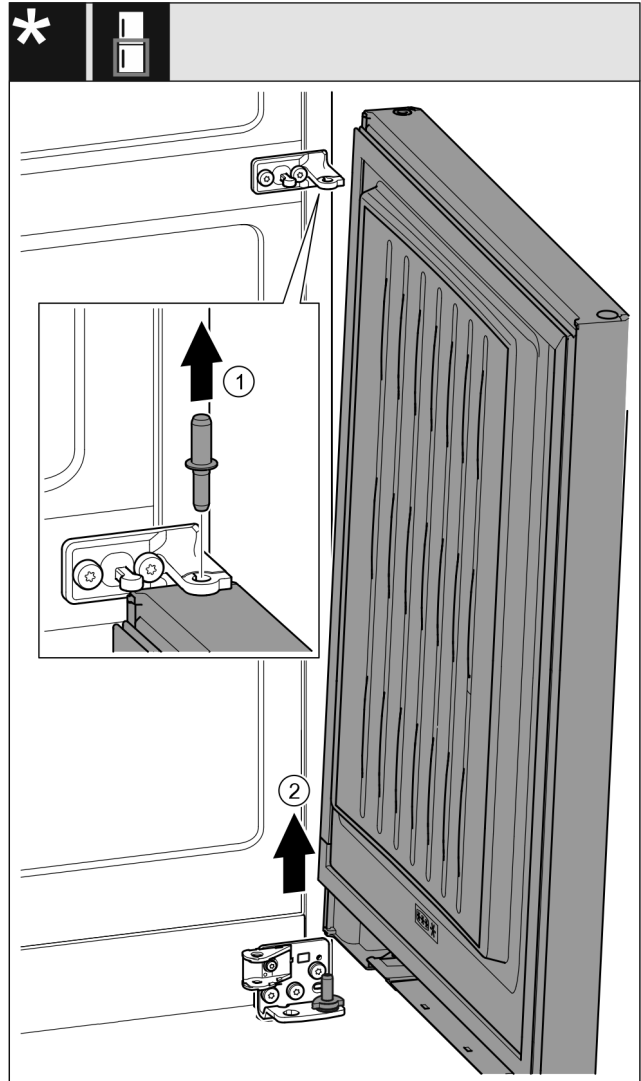

Fig. 23 \*
- ▶ Pull out the bolts upwards. Fig. 23 (1)\*
- ▶ Swing the door out, pull it upwards and place it to one side. Fig. 23 (2)\*